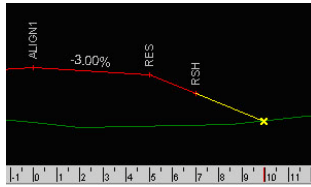

Figure 18-56. New Right Batter Point Created and Moved with the Pointer
- Select the batter hinge point on the design surface with the mouse (Figure 18-56 on page 18-59).
- Specify the new intersection point of the batter using an offset from the center line or a batter slope (Figure 18-56).